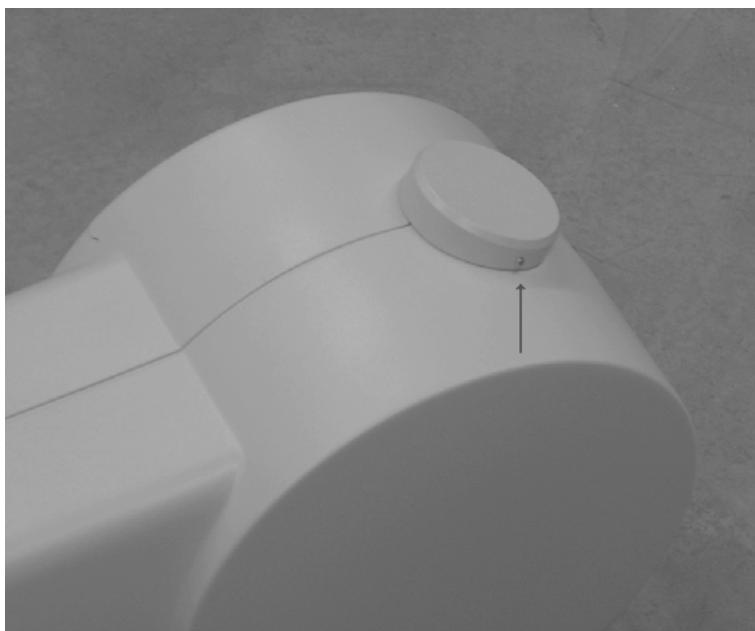

Fig. 9 Monitor support system cover 1-2
- Remove the screw fastening of the cover halves on the upper joint of the cover, see arrow Fig. 9.